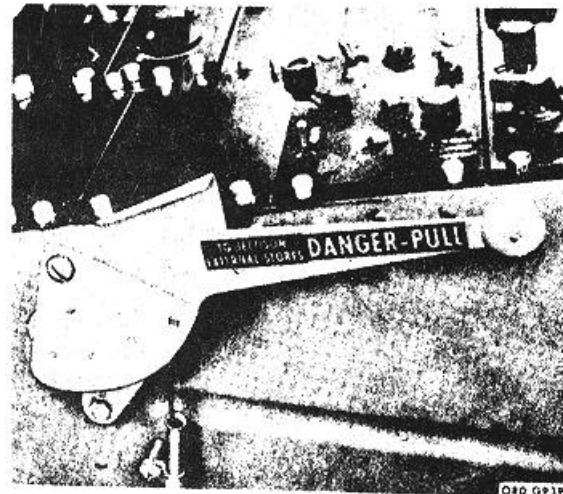

Figure 22. Mechanical jettison lever (locked position).
a. Pull the pilot's mechanical jettison lever (fig. 22) up to the release position and install
the jettison lever (fig. 22) up to the release position and install the jettison lever locking pin in the lever and lever support.
j. Remove the locking pin and push the pilot's mechanical jettison lever (fig. 22) down to the locked position.